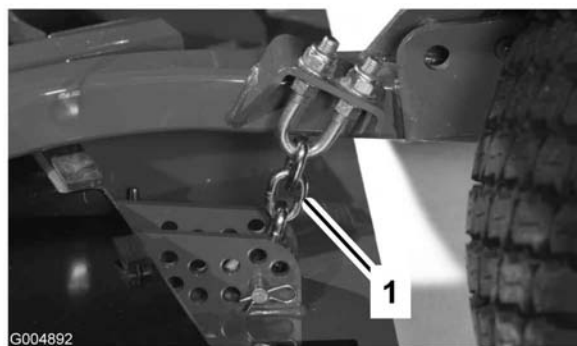

Figure 74
3. Remove the hairpin cotter and clevis pin securing the height-of-cut chains to the rear of the cutting unit (Figure 74).